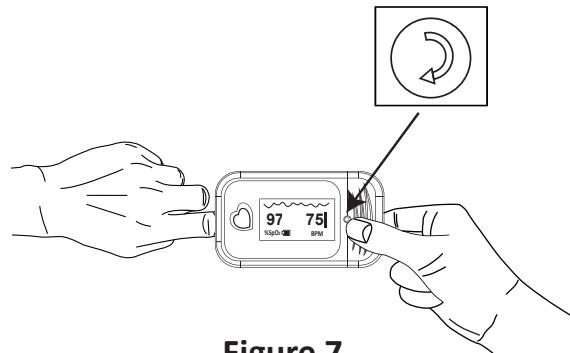

Figure 7
- 1) Press the Screen turn switch, See figure 7.